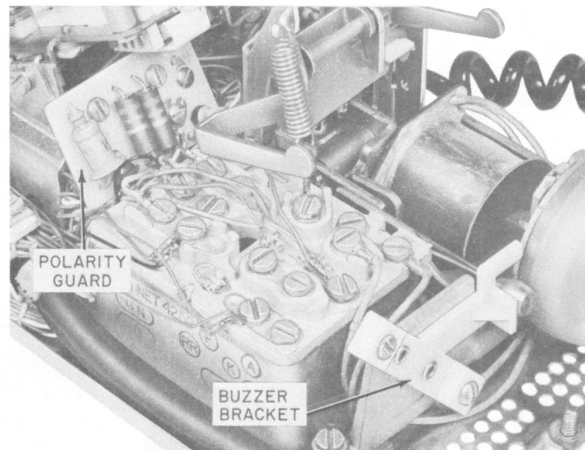

Fig. 12—P-90D052 Guard Assembly, Installed
3.10 A P-90D052 guard assembly may be added to the 2564HL and 2568HAA telephone sets only when specified by local instructions for end-to-end signaling. Mount the guard assembly to the right dial mounting bracket as shown in Fig. 12.